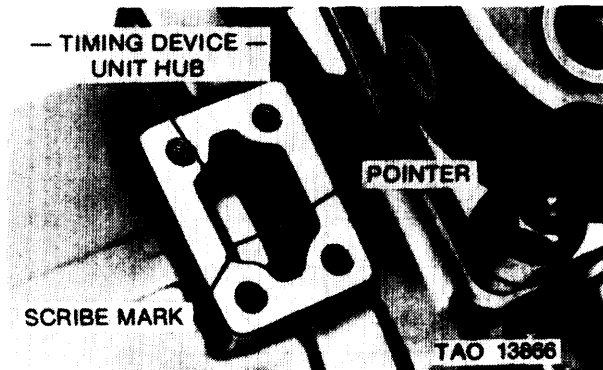

Figure 3-168. Aligning scribe mark on timing device hub with timing pointer.
e. Slowly continue to rotate the drive hub in a clockwise direction (as viewed from the drive end) until the test oil begins to form droplets at the end of the U-tube. Slowly continue to rotate the drive hub until the test oil flows freely and then diminishes and stops. This is port closing. The scribed mark on the advance unit hub should now be alined with the pointer (fig. 3-168) and the slotted, red painted tooth in the timing window should be one tooth to the right of the mark on the pump housing. If the above specification is not met, the hydraulic head, tappet assembly and/or camshaft must be replaced. If the plunger button is damaged, hydraulic head must be replaced.
3-55. Hydraulic Head Leak Test. a. Remove timing device cover, timing window cover or fuel shutoff housing. Rotate the drive coupling in a clockwise direction until the mark on the advance unit hub is alined with the pointer (port closing) (fig. 3-168).